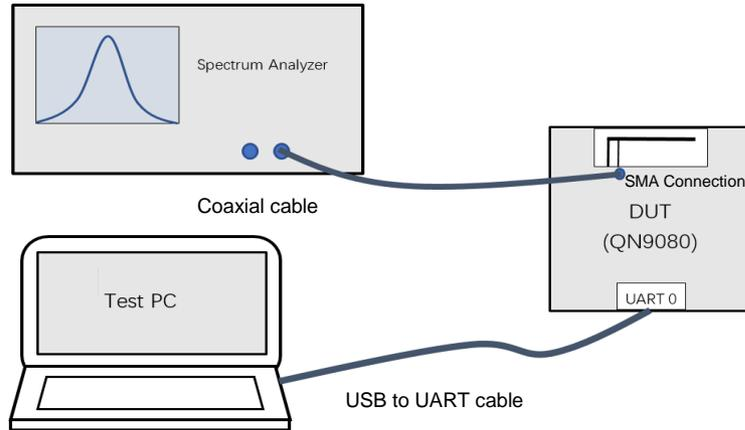

Figure 2 Hardware Setup for High Frequency Crystal Calibration
The hardware setup is illustrated in figure 2 below.
As illustrated in figure 2, QN908x\_CrystalsCal.exe is the Windows based PC tool used for QN908x load capacitance calibration test, which consists of controlling QN908x for TX carrier transmission and calibration related register accessing.
1. Setup the hardware connection as illustrated in figure 2.